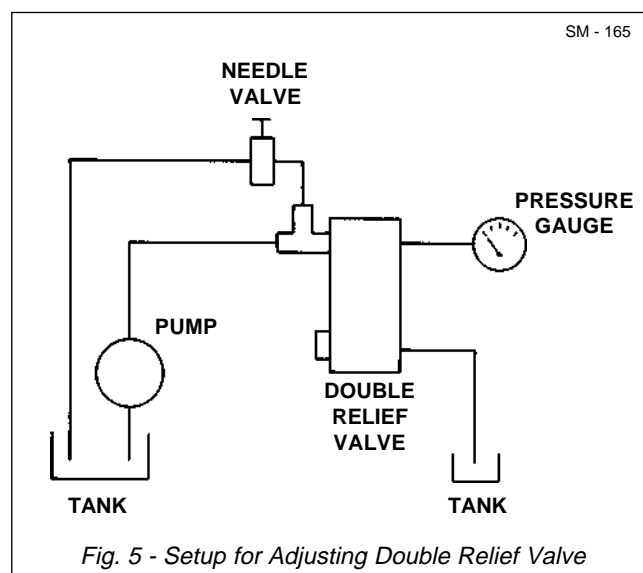

Fig. 5 - Setup for Adjusting Double Relief Valve
1. Using adjusting setup as shown in Fig. 5, install a 0 - 207 bar (0 - 3 000 lbf/in2) pressure gauge in one side of port 'B' and a tee in the opposite side of port 'B'.
5. Open the needle valve and start the pump. Gradually close the needle valve. If oil is discharged through port 'A' before relief pressure is reached, turn adjustment screw (7) in until discharge stops. Continue closing the needle valve and turning adjustment screw (7) until discharge through port 'A' occurs at relief pressure.